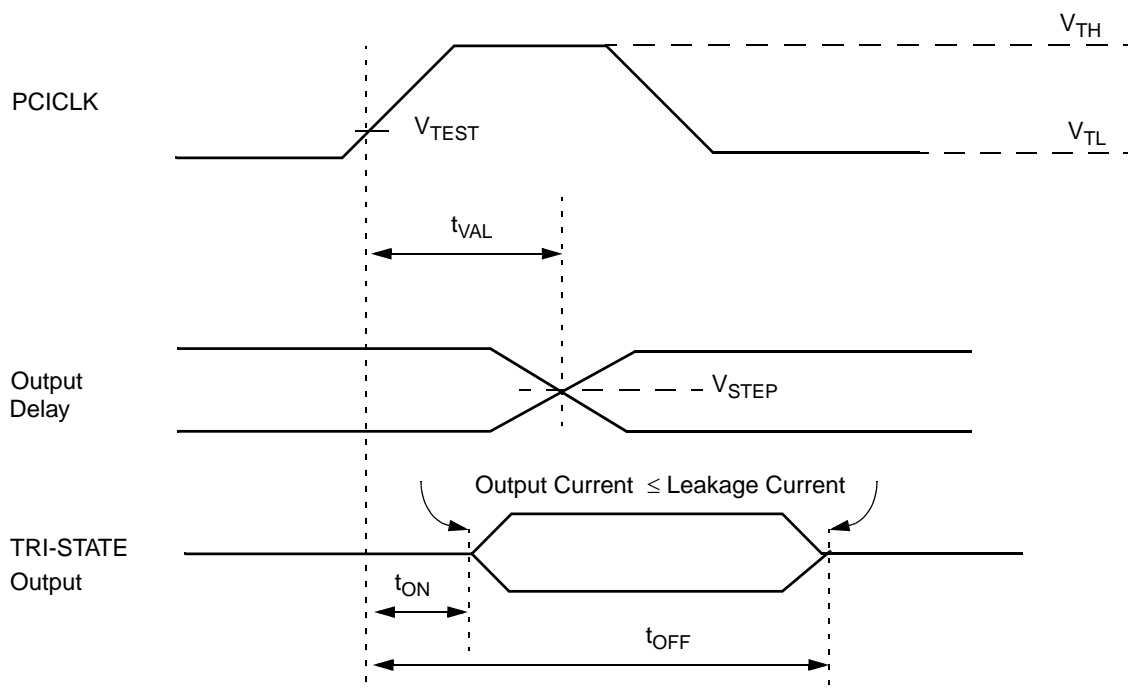

Figure 8-16. Output Timing Measurement Conditions
1. See the timing measurement conditions in Figure 8-16.